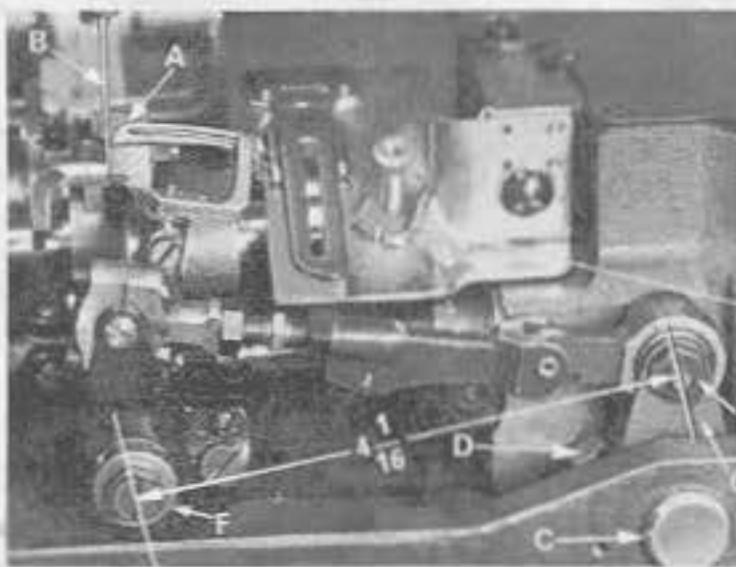

Fig. 5
Insert looper (A, Fig. 5) in the looper rocker and turn handwheel in operating direction until the point of the looper, moving to the left is even with the left side of the needle (B). Note the height of the eye of the needle with respect to the looper point, then turn handwheel in the reverse direction until the looper point again moves to the left, and is even with the left side of the needle. If the motions synchronize, the height of the eye of the needle with respect to the looper point will be the same. A variation of .005 inch (.127mm) is allowable. If the distance from the eye of the needle to the point of the looper is greatest when the pulley is turned in the operating direction, move the looper drive shaft synchronizing stud (C) to the rear. Moving it in the opposite direction acts the reverse.
Moving of the looper drive lever shaft synchronizing stud is accomplished as follows: Loosen the clamp screw (D, Fig. 5) in the looper drive lever (G). To move stud to rear (away from operator), a light tap with a small hammer, directly on the stud, is all that is required. To move stud forward (toward operator), remove the cloth plate, throat plate support, oil reservoir top cover and oil reservoir back cover, then, a light tap on the looper drive lever rocker shaft, toward the operator, is all that is required.
NOTE: Looper drive lever (G, Fig. 5) has an oil seal collar and an "O" ring between it and the bed casting. All end play must be removed from the looper drive lever
With the looper at the extreme right end of its travel, check the location of the center line of the right looper connecting rod bearing, using gauge No. 21227 CX. Remove nut (E, Fig. 5) and place hole in gauge over thread stud. The left end of the gauge should locate against the right side of the looper rocker cone (F). If adjustment is necessary, loosen the clamp screw (D) and re-position the looper drive lever (G) as required. If gauge is not available setting can be checked with a scale. The distance between the center line of the looper rocker cone and the center line of the looper lever stud should be 4 1/16 inch (103.19 mm) (Fig. 5). For Class 56700 machines used gauge No. 21227 CX-56, etc. Retighten clamp screw (D) referring to "NOTE" in preceding paragraph.